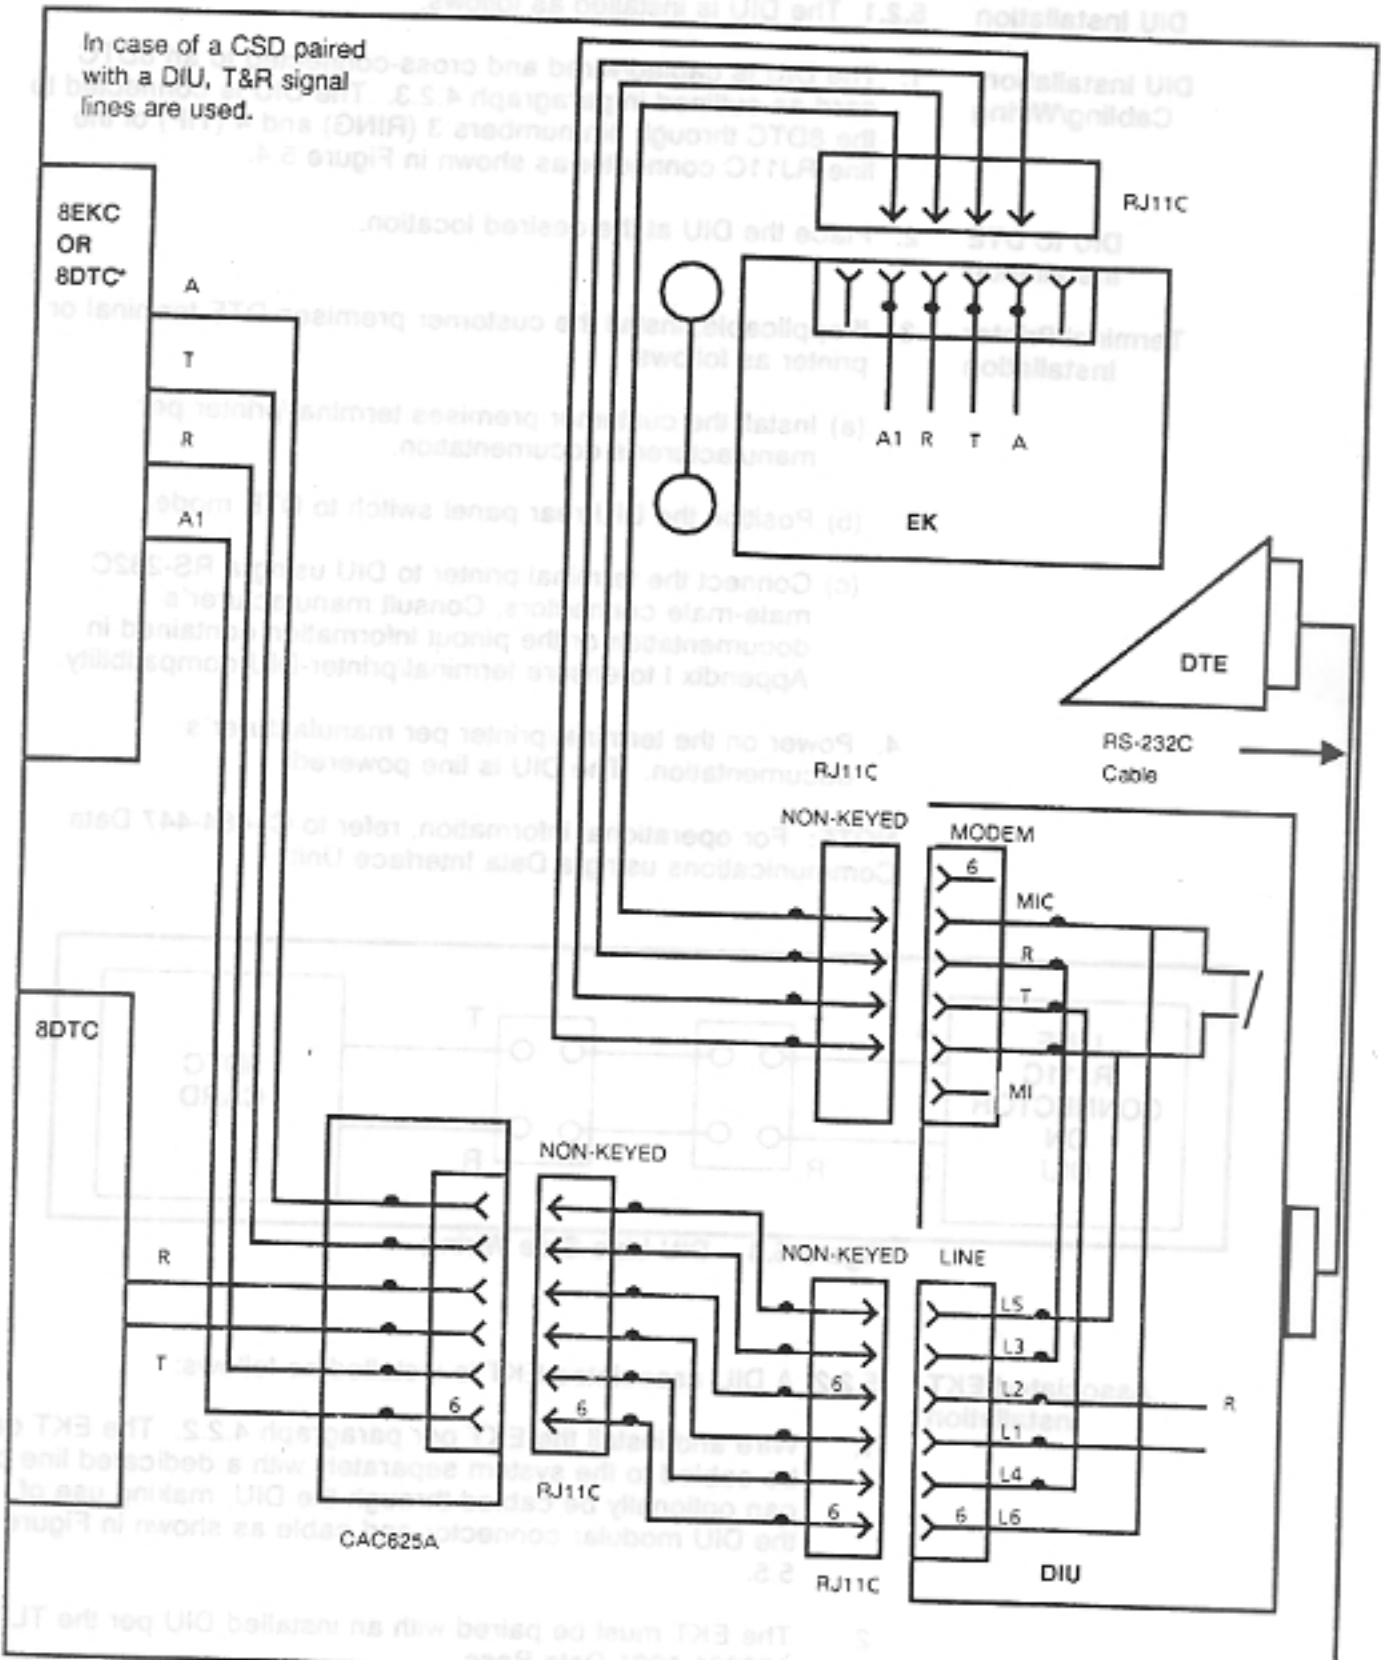

Figure 5.5 Wiring Diagram for Wiring EKT and DIU using a Single Modular Jack and Cable
- 1. Wire and install the EKT per paragraph 4.2.2. The EKT can be cabled to the system separately with a dedicated line or can optionally be cabled through the DIU, making use of the DIU modular connector and cable as shown in Figure 5.5.